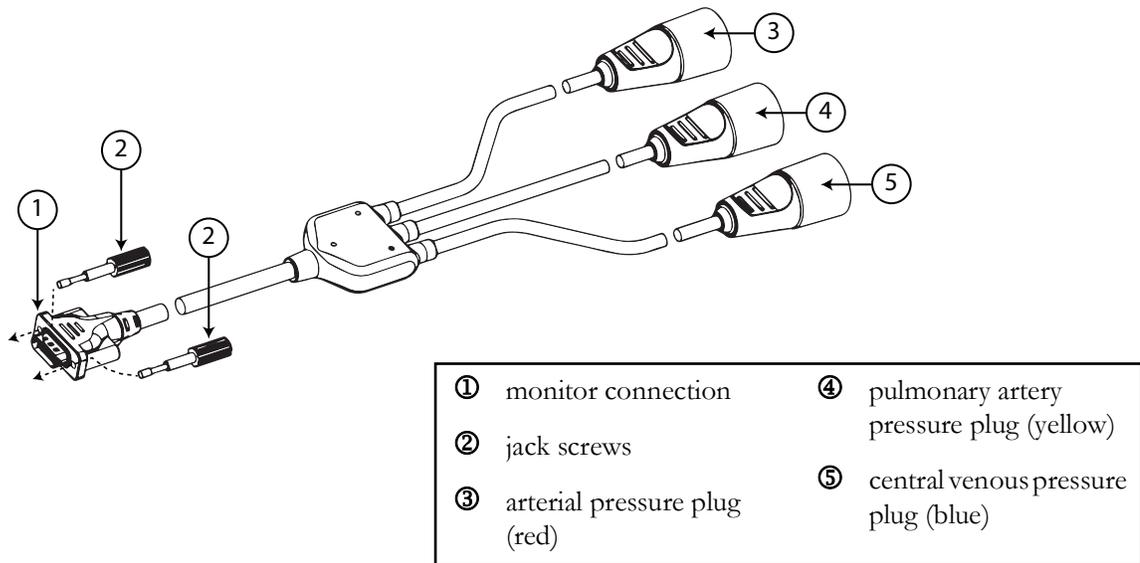

Figure 10-3 HemoSphere pressure-out cable
- 1 Plug the 18-pin connector of the HemoSphere pressure-out cable (see ① in figure 10-3) into the rear panel of the monitor at the pressure out port denoted by the analog out symbol $\ominus \rightarrow$. See ③ in figure 3-2 on page 71.
- 2 Use the two jack screws to properly secure the pressure-out cable plug in place. See ② in figure 10-3.
- arterial pressure (AP, red, ③)
- pulmonary artery pressure (PAP, yellow, ④)
- central venous pressure (CVP, blue, ⑤)